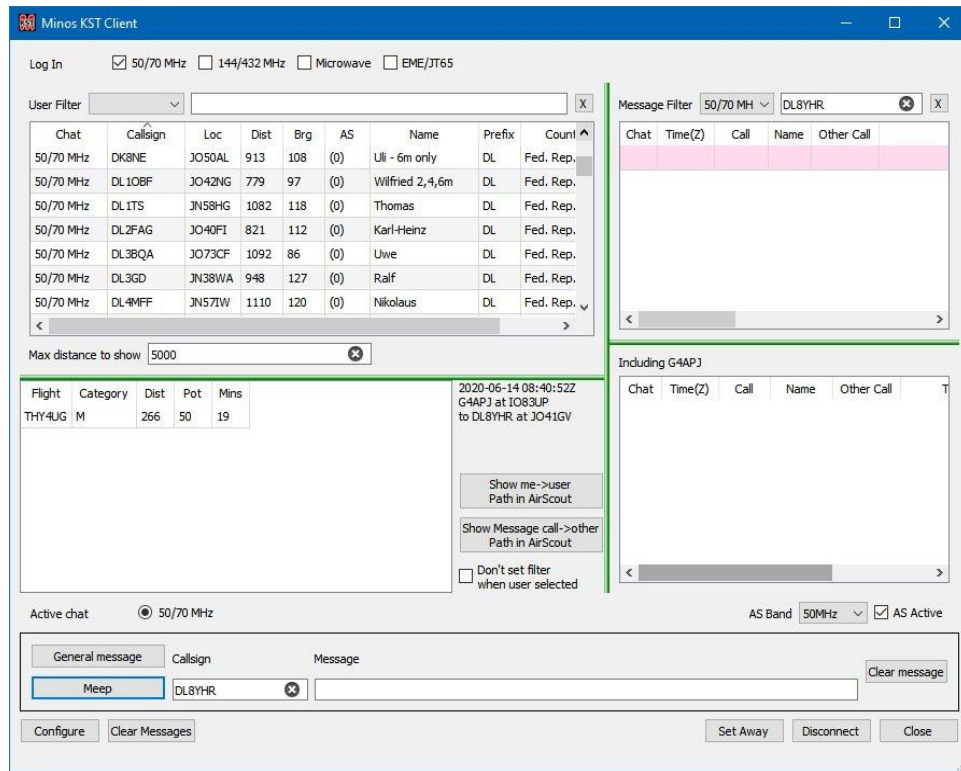

Figure 161 – Airscout operational in KST Client
Once the connection is established¹⁴² additional information (AS) is displayed in the User panel (on the left), and a new panel appears bottom left (Figure 161).